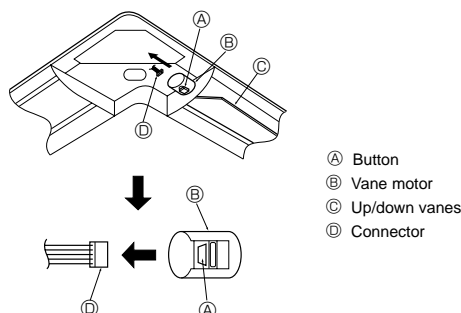

Fig. 5-11
5.7. Locking the up/down airflow direction (Fig. 5-11)